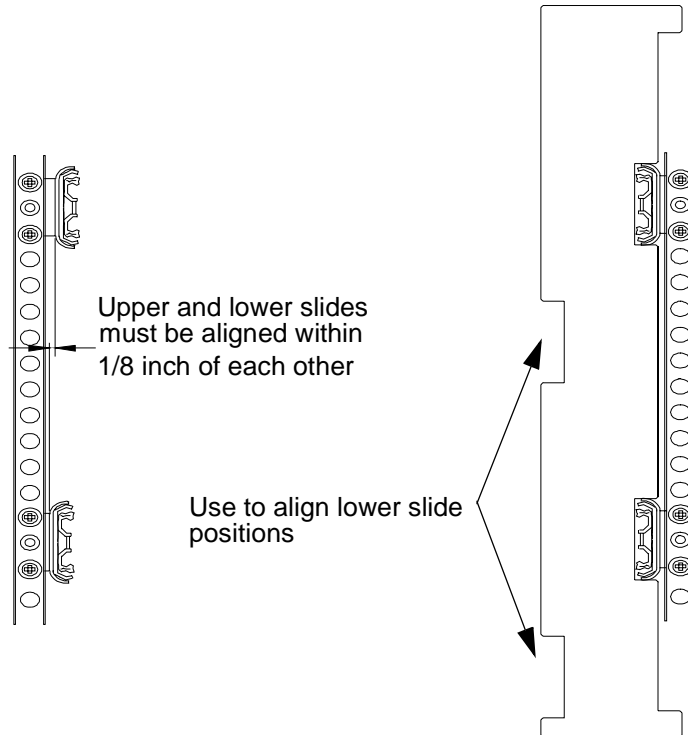

Figure 18. Vertical Alignment of Upper and Lower Slide
3. After the lower right rack slide is secured, use the rack slide alignment tool to locate the upper right slide as shown in **Figure 18**. The slides cannot be misaligned by more than 1/8". Secure the upper right slide by tightening the front and rear screws.
5. Check the vertical alignment of the slides on the left with the rack slide alignment tool as shown in **Figure 18**. Ensure all screws are securely fastened.